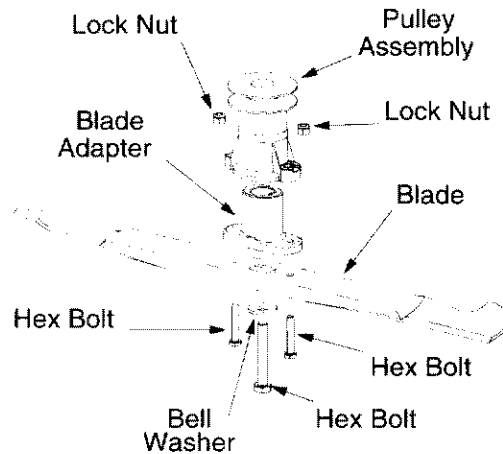

FIGURE 12
For complete lubrication chart, see Figure 12.
- Install the blade adapter on the pulley with the "star" away from the pulley. See Figure 12.